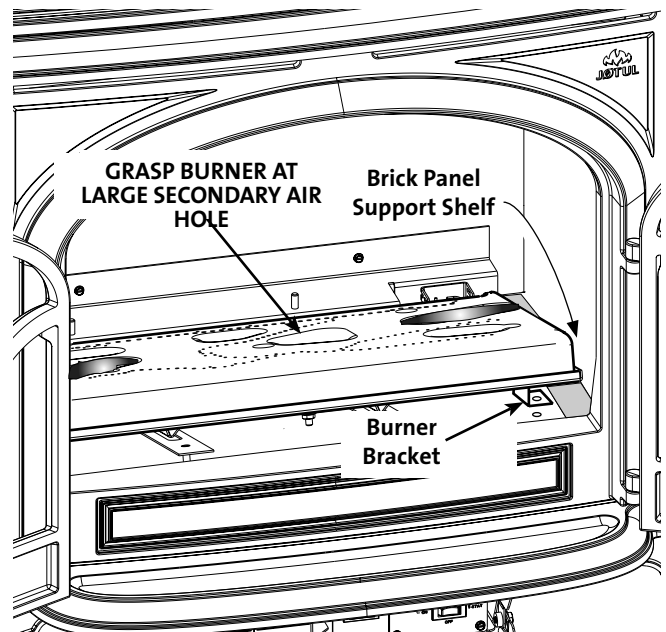

Figure 27. Pull the Burner assembly forward and up to disengage it from firebox.
5. Lift the Brick Panel Support Shelves from the firebox floor to access and remove two #8x 1/2" sheet metal screws that secure the Burner Brackets to the floor. See figs. 27 and 56,
6. **Grasp the burner at the large secondary air hole and pull the assembly up and forward to disengage it from the burner injectors.** Tilt the assembly to fit through the door opening. See fig. 27.